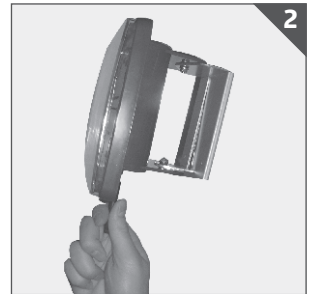

Figure 2
4. Slowly turn the screwdriver until it engages with the adjusting mechanism. (Fig2)